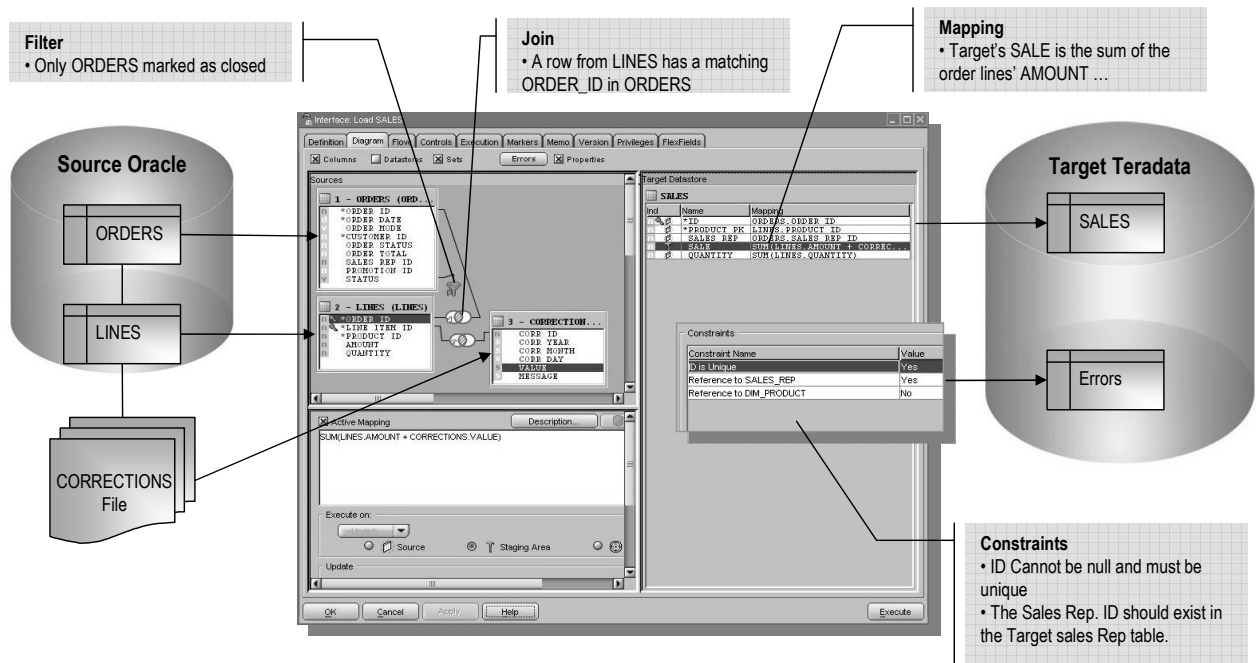
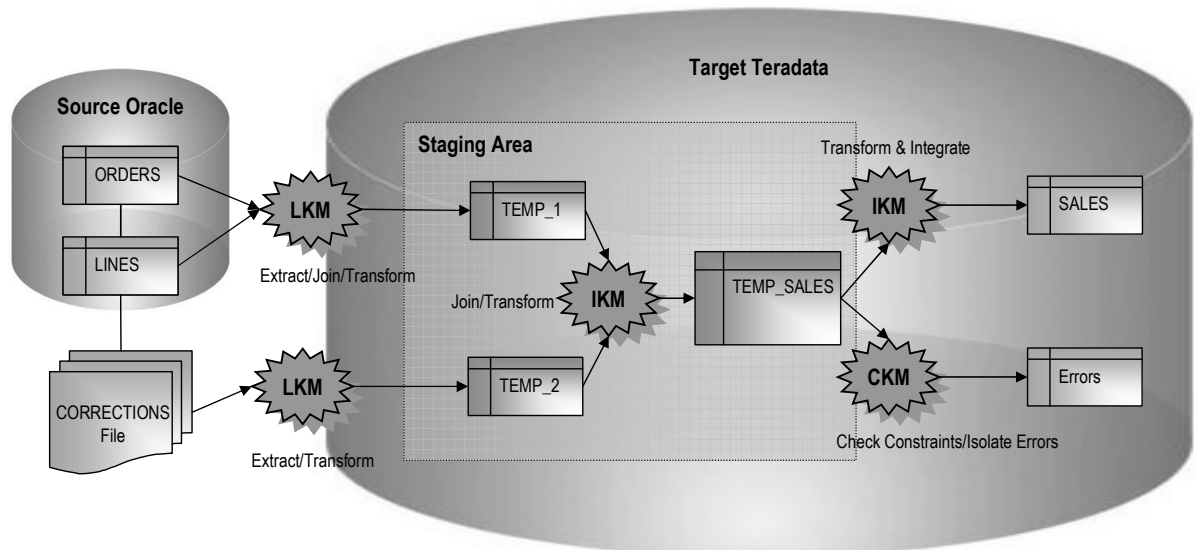

Figure 6: Implementation using Oracle Data Integrator
Figure 8: ODI Knowledge Modules in action
Figure 6 gives an overview of how the business problem is translated into an ODI interface:
Figure 8 shows the process **automatically generated** by Oracle Data Integrator (ODI) to load the final SALES table. The business rules, as defined in Figure 6 will be transformed into code by the **Knowledge Modules (KM)**. The code produced will generate several steps. Some of these steps will *extract* and *load* the data from the sources to the staging area (Loading Knowledge Modules - LKM). Others will *transform* and *integrate* the data from the staging area to the target table (Integration Knowledge Module - IKM). To ensure data quality, the Check Knowledge Module (CKM) will apply the user defined constraints to the staging data to isolate erroneous records in the Errors table.